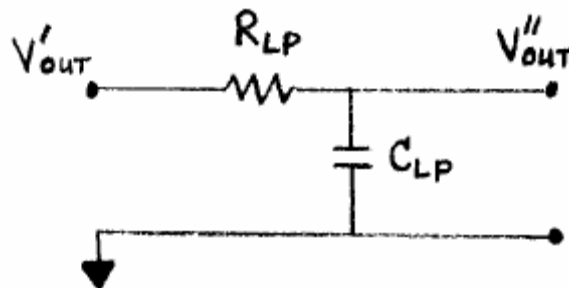

Figure 8: RLC Low-Pass Filter
- Evaluate the transfer function between the input voltage V'_out and V''_out as shown in Figure 8 Experiment 3 before coming to class and include in your prelab.
Add the RC low-pass filter shown in Figure 8 to the circuit you built in Experiment #2. Choose the resistor R_{LP} and the capacitor C_{LP} such that $R_{LP} = 100 \text{ k}\Omega$ and $C_{LP} = 0.1 \text{ }\mu\text{F}$. Estimate the cutoff frequency ω_0 of the filter if $\omega_0 = 1/RC$ both in rad/sec and Hz.